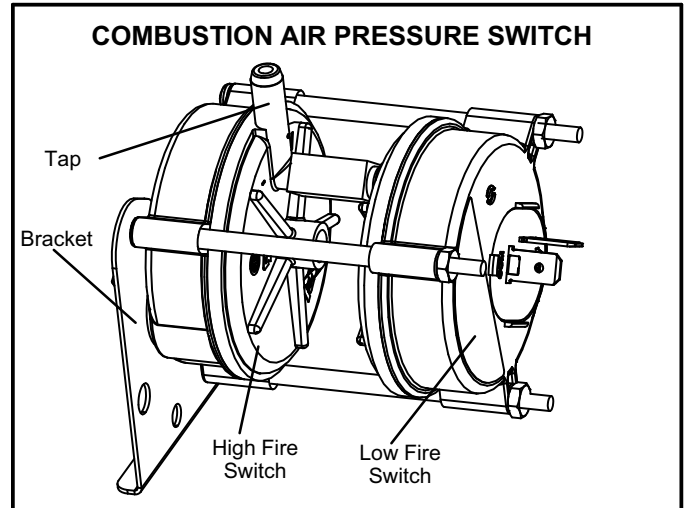

FIGURE 15
SL280UHV(X) series units are equipped with a dual combustion air proving switch (first and second stage) located on the combustion air inducer orifice bracket. See figure 15. The switch is connected to the combustion air inducer housing by means of a flexible silicone hose. It monitors negative air pressure in the combustion air inducer housing.